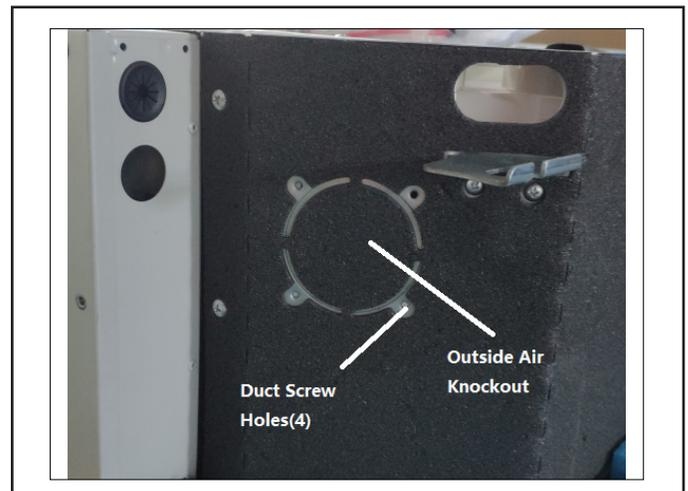

Figure 16. Typical Outside Air Knockout
5. Knock out the outside air supply opening. See Figure 16.
7. Connect the outside air duct to cassette body using the four screw holes shown in Figure 16.
If needed for the application, one or two sides of the cassette supply air can be blanked off to prevent air flow from that side. See Figures 16 and 17 for possible air flow configurations.